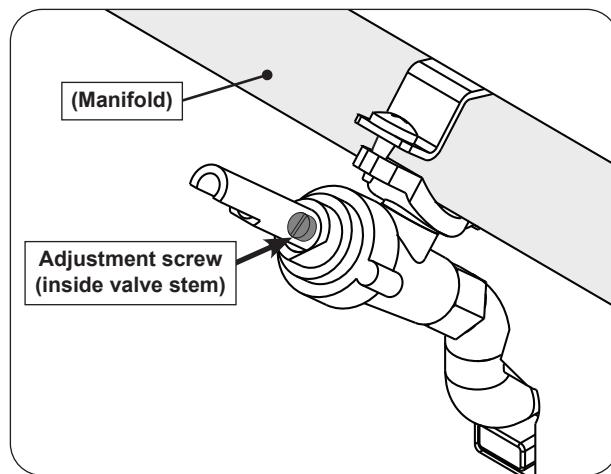

Fig. 41-1 Valve adjustment screw location
3. Locate the FLATHEAD adjustment screw found inside the valve stem (see Fig. 41-1).